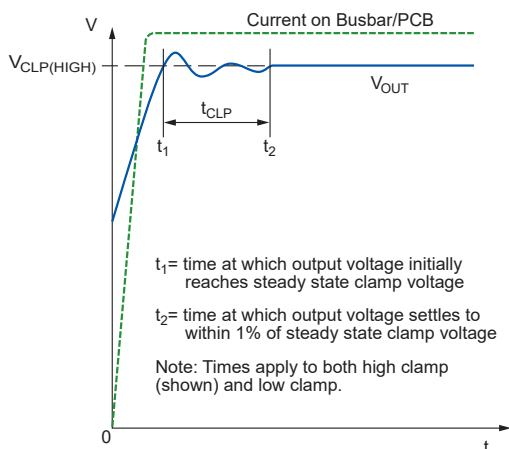

Figure 42: Delay to Clamp
**Delay to Clamp ( $t_{CLP}$ ).** A large magnetic input step may cause the clamp to overshoot its steady-state value. The delay-to-clamp time,  $t_{CLP}$ , is defined as: the time it takes for the output voltage to settle within  $\pm 1\%$  of the clamp voltage dynamic range, after initially passing through its steady-state voltage, as shown in Figure 42.